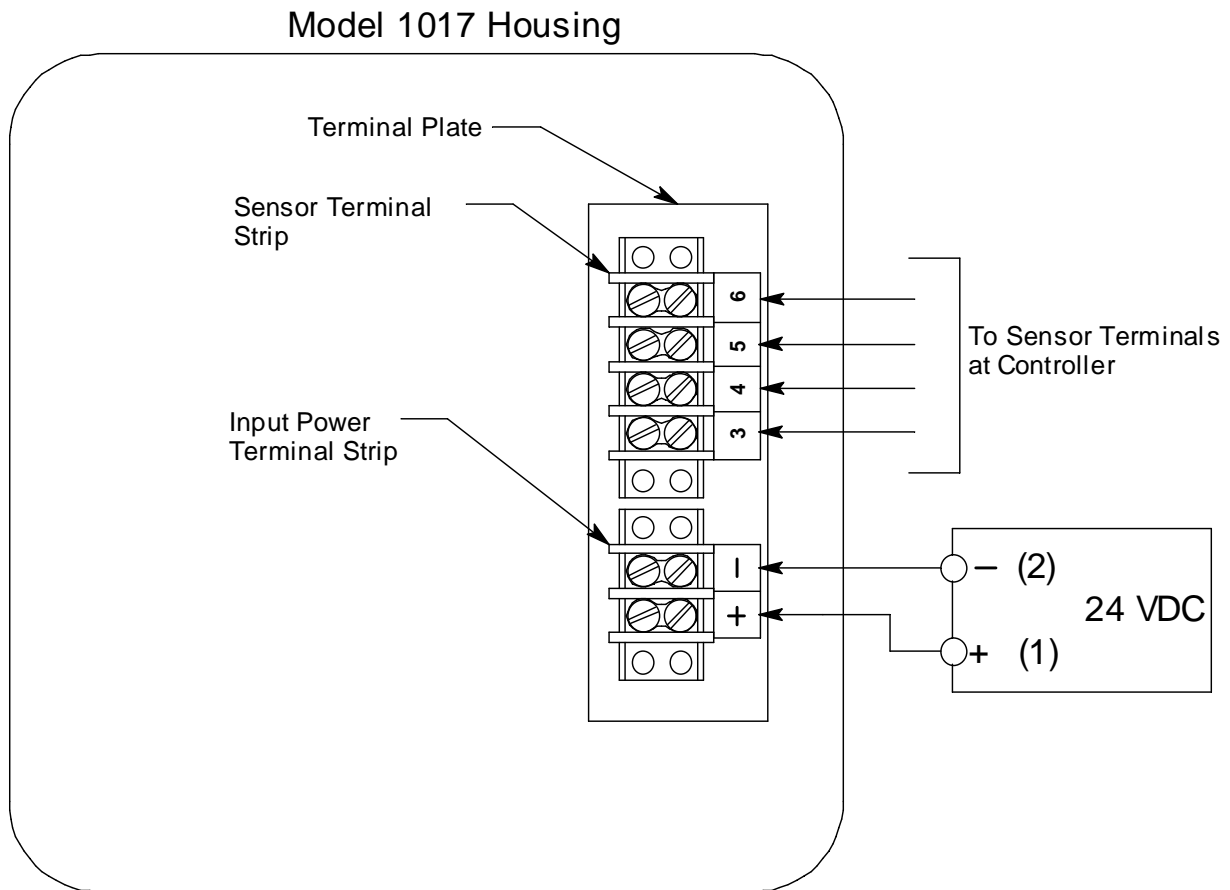

Figure 4: Wiring the Model 1017-06
4. Connect two wires to the input power terminal strips as shown in Figure 4.